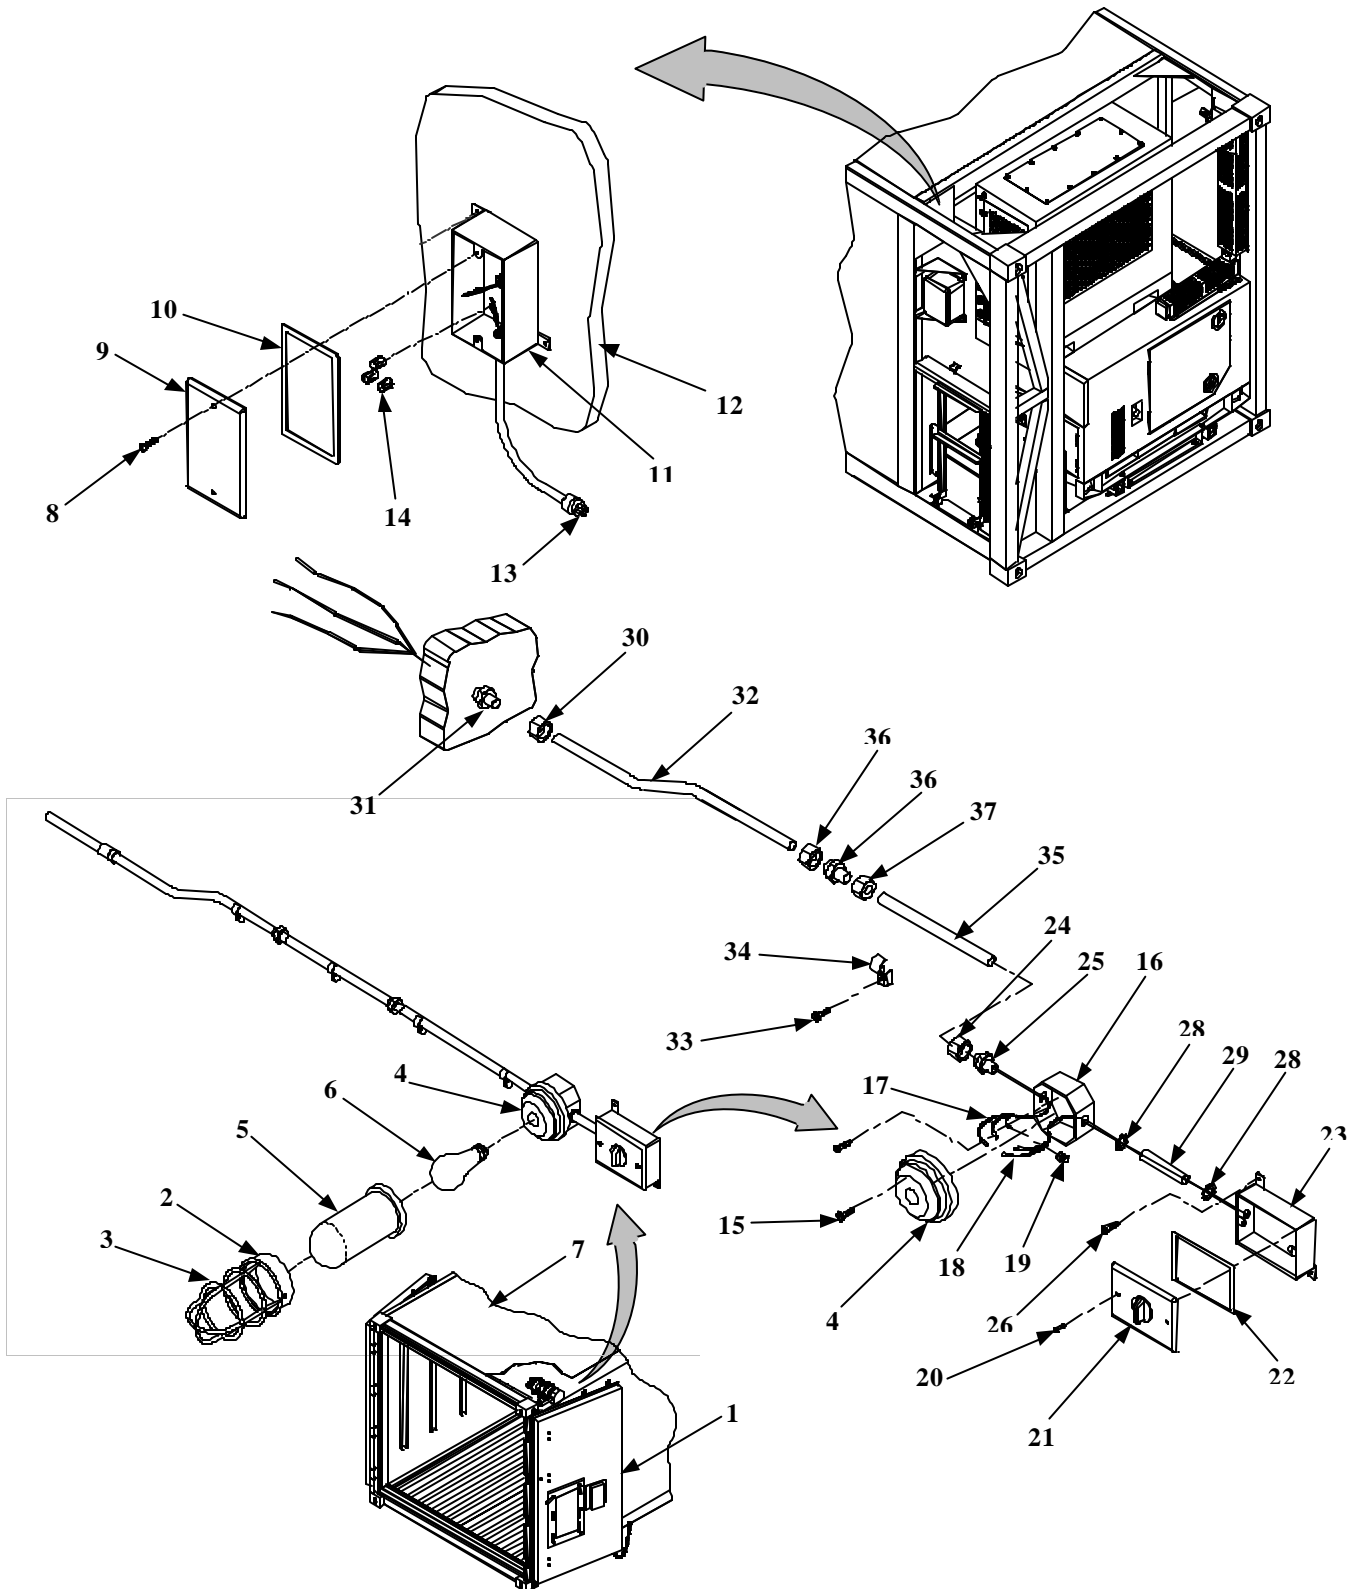

Figure 1. Disassembly
1. Inspect globe (5, Figure 1) for cracked or broken glass.
2. Inspect switch (21) for signs of overheating, shorting and corrosion.